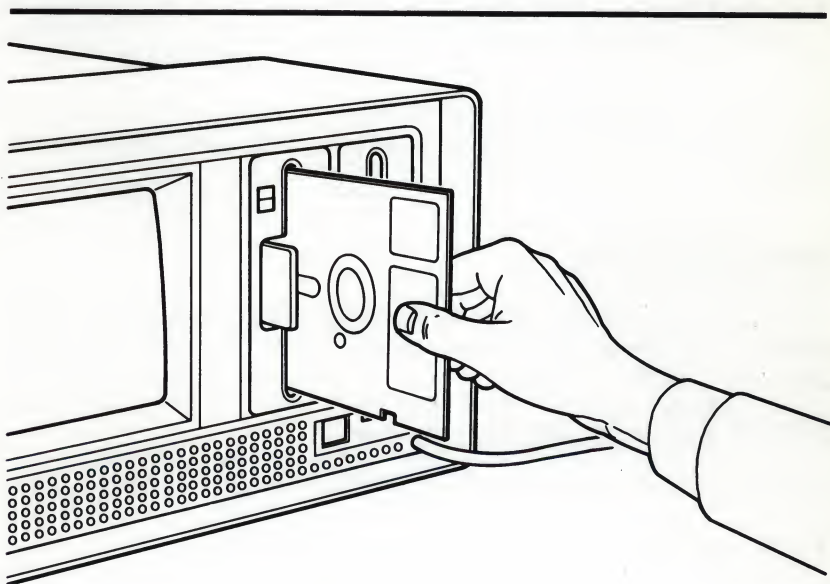

Fig. 3-3 Inserting a Diskette
To insert a diskette into a drive, refer to Figure 3-3, and do the following:
2. Insert the diskette into the slot with its label facing toward the monitor, and towards you, as shown in Figure 3-3.